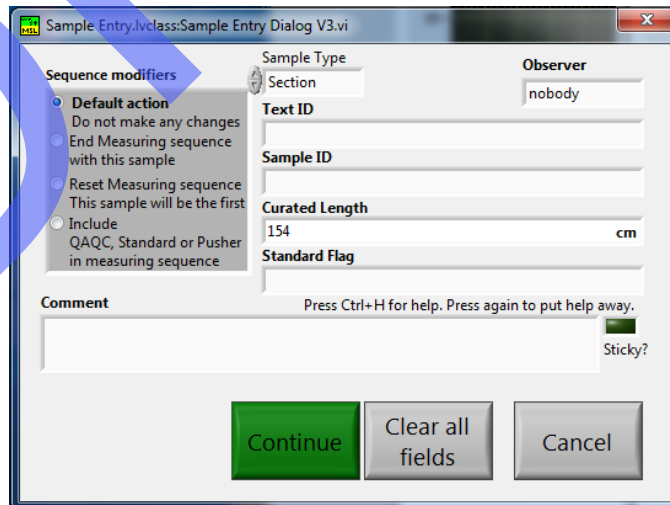

Figure 4. Sample Entry screen.
4. Click **Scan Sample** on the **Program Interface** to open the **Sample Entry** screen (Fig. 4). Scan the core label with the handheld barcode scanner to automatically populate **Text ID**, **Sample ID**, and **Curated Length**. **Important note:** check the sample length against the actual section in case a whole-round sample, etc., has been taken from the section. *For hard-rock cores, enter the entire length of the section, not just the part containing core pieces.*
- Once Sample Entry is complete and verified, click **Continue** (Fig. 4) to start the measurement.